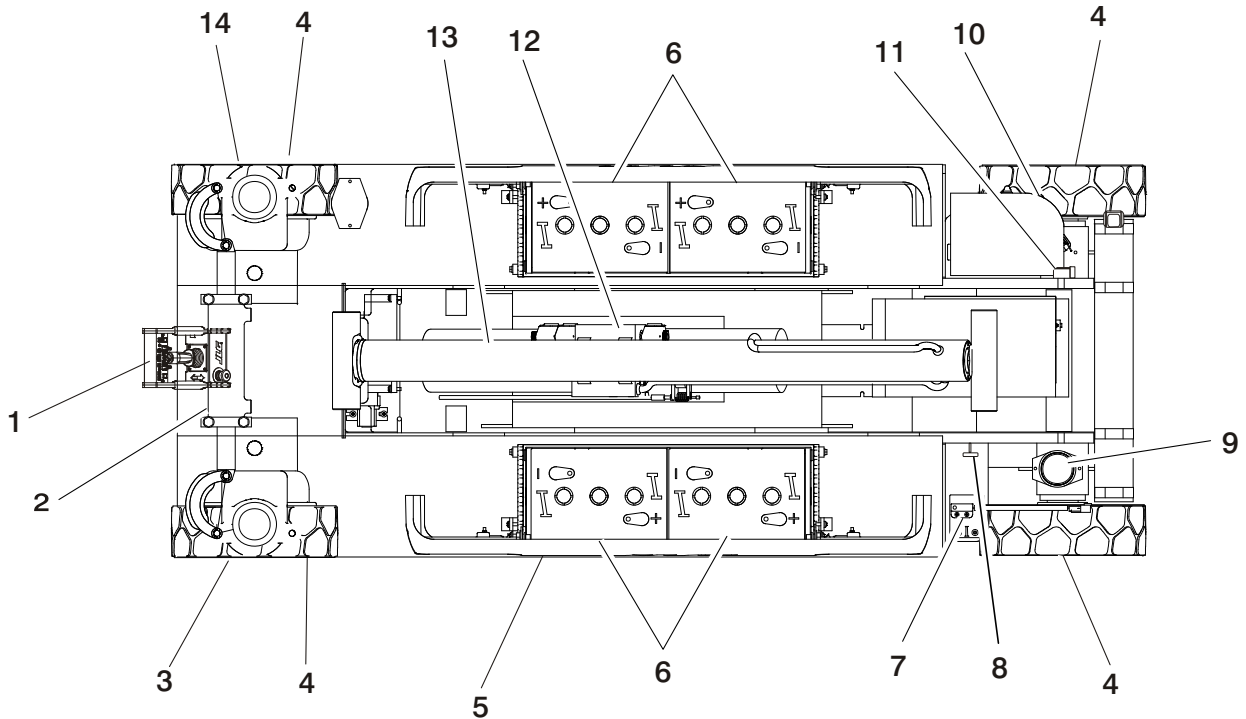

Figure 2-1. Daily Walk-Around Inspection - Sheet 1 of 3
5. **“Walk-Around” Inspection** – Refer to Figure 2-1